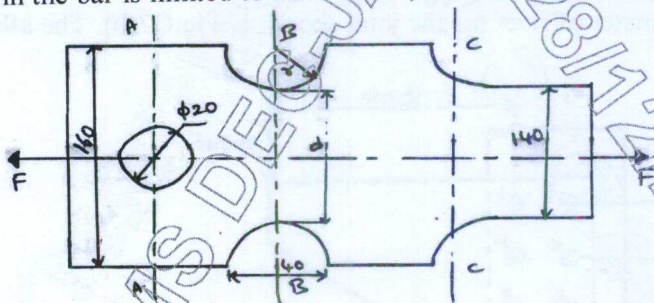

Fig.Q2(b)
b. A flat bar shown in Fig.Q2(b) is subjected to an axial load of 100 kN. Assuming that the stress in the bar is limited to  $200 \text{ N/mm}^2$ , determine the thickness of bar.